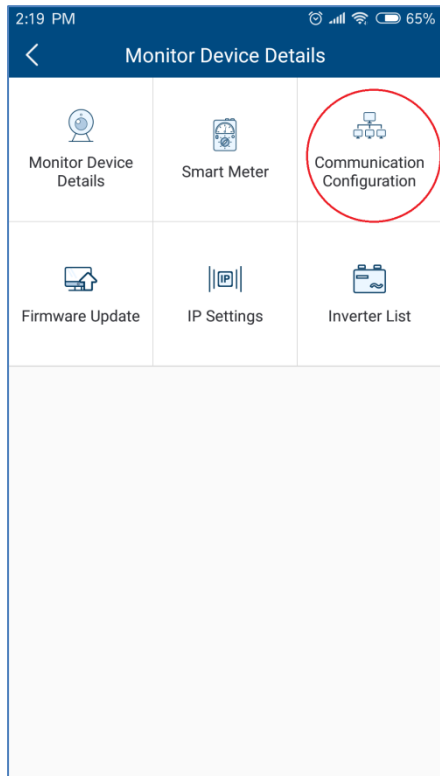

Figure 2-3-5
Step 3: Select the Monitor Device Details→to enter the Communication Configuration (as shown in Figure 2-3-5. If both WIFI and Ethernet are connected, two devices with the same serial number will appear, but the IP is different. Configure the connection of WIFI of the monitor device to the user’s router (the router needs to be able to access the Internet) on the router page. The user can manually enter the name of the home router (SSID) in the network name or click the down arrow in the red circle to select the name of the WIFI signal detected by the monitor device, then enter the router password and click “Confirm Settings” to complete. As shown in Figure 2-3-6.